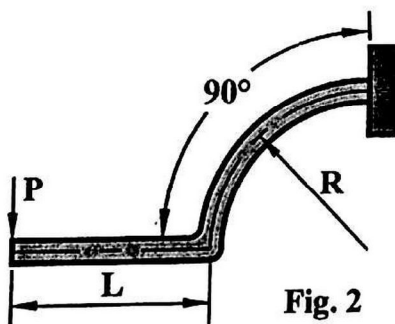

Fig. 2
3. A prismatic homogeneous isotropic beam is vertically loaded as shown in Fig. 2. The plane of the beam is also vertical. Determine the horizontal and vertical displacements at the at the point of application of the force  $P$ . (8)